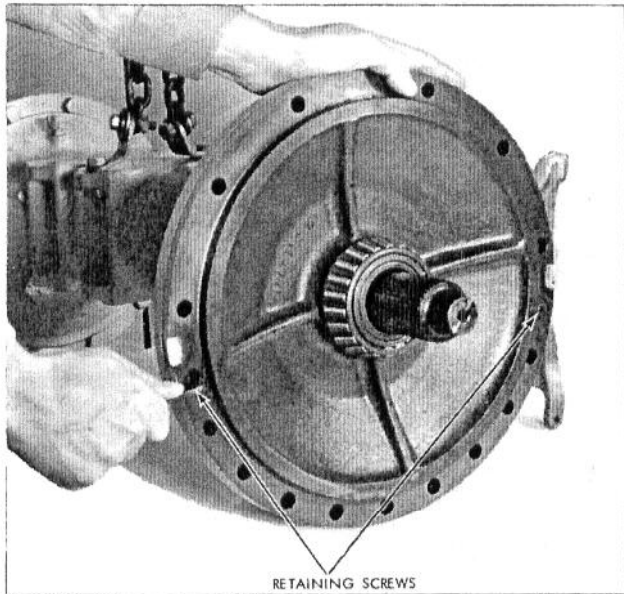

Fig. 7 — Carrier Plate Retaining Screw Removal or Installation
1. Remove the 2 Allen-head screws attaching the carrier plate to the axle housing. Refer to Fig. 7.